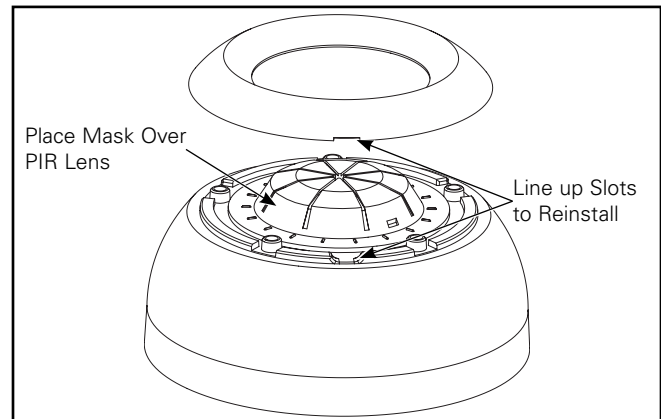

Figure 6.
3. Place mask over lens and reinstall sensor cap using the slots for alignment. (Figure 6.)